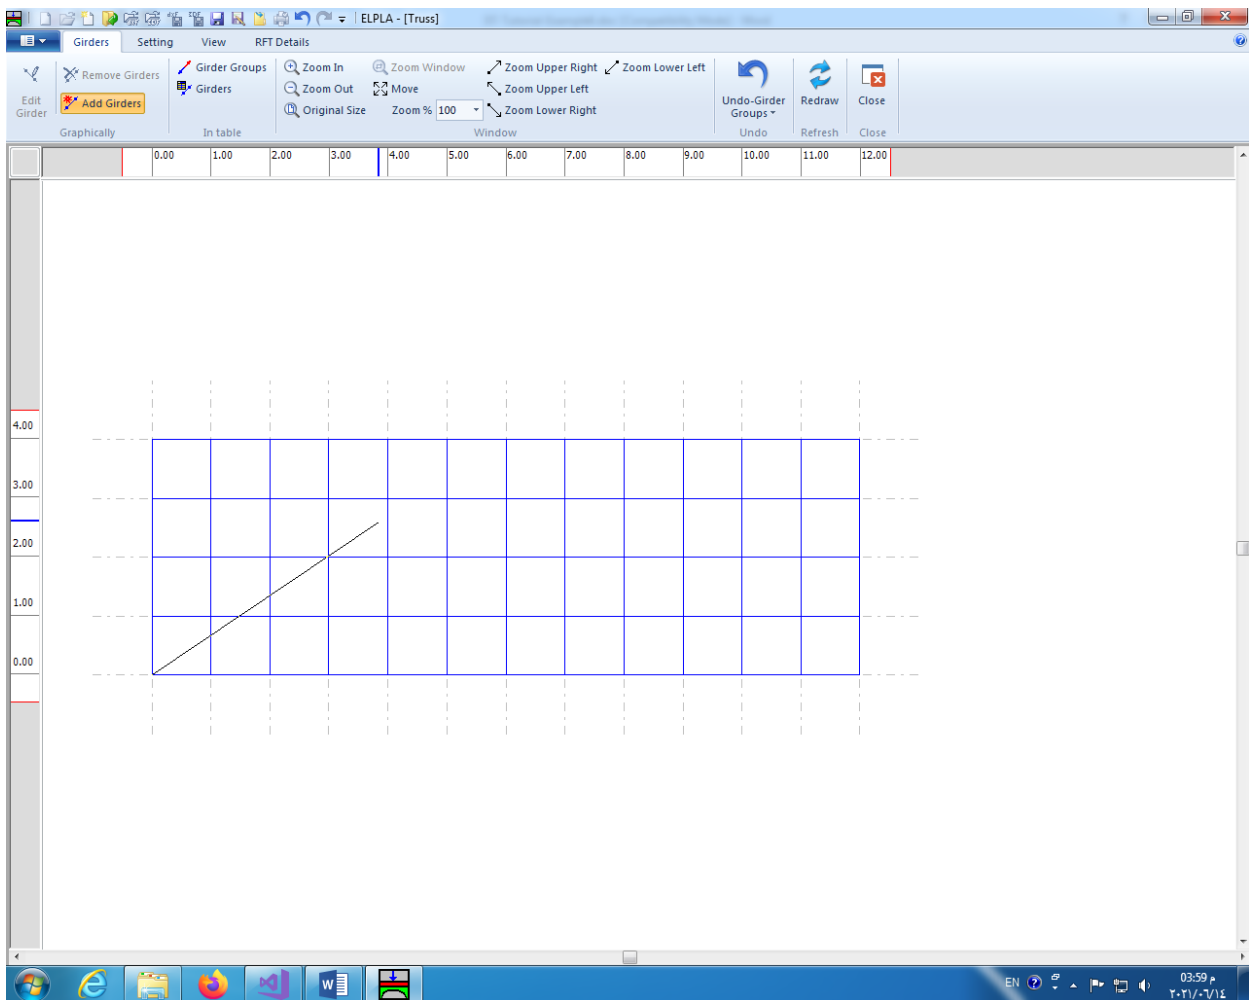
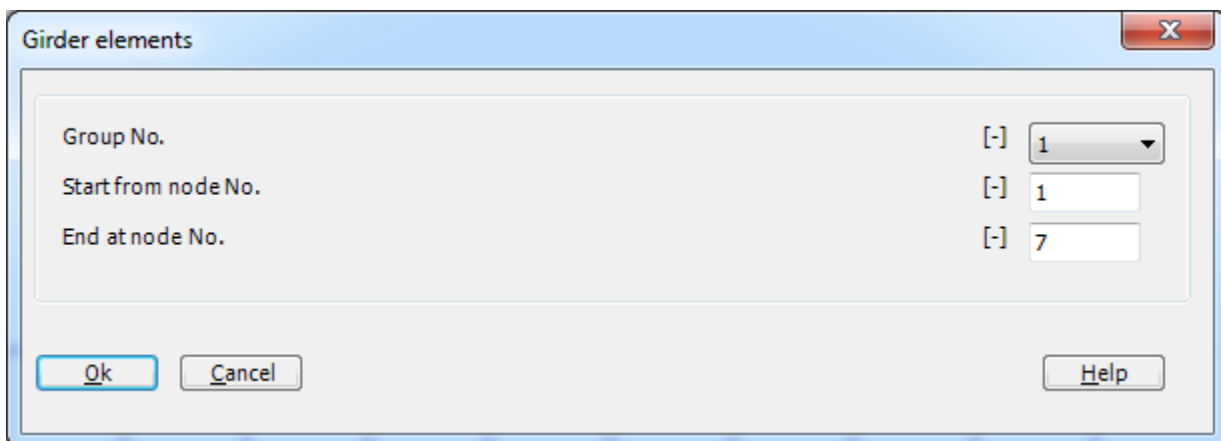

Figure 6.14 Add girder by mouse
Figure 6.15 "Girder elements" dialog box
- Click the left mouse button on the start node of the first girder and drag the mouse until the end node of that girder (Figure 6.14). Then, click on the end node. The "Girder elements" dialog box in Figure 6.15 appears